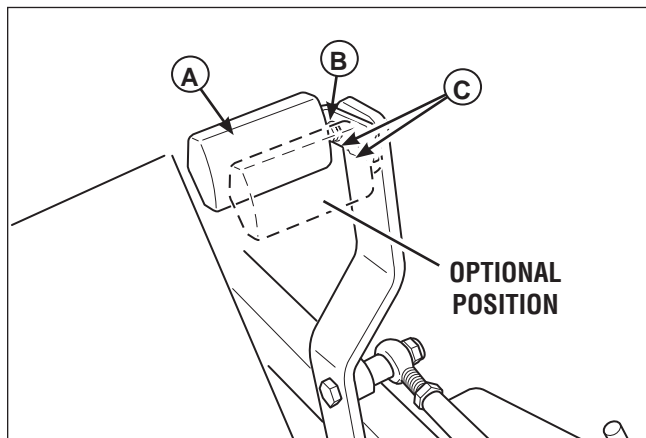

Figure 6. Foot Pedal Adjustment
1. Remove the foot pedal (**A**, **Figure 6**) from the pedal mount tab (**B**).
4. Reinstall the foot pedal on the pedal mount tab in the proper orientation as shown in Figure 6.